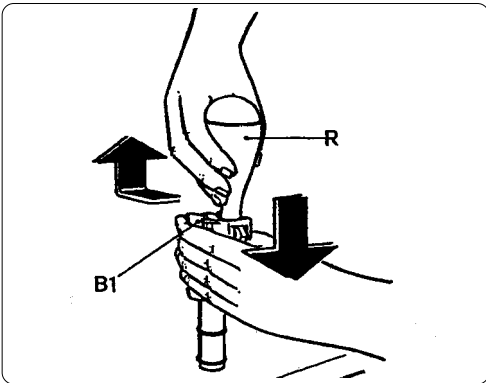

Fig. 32
g) Dismount the tap by pushing the body (B1) downwards, then slide the lever (R) out of its seating (fig. 32). Wash all the individual parts carefully with hot water and washing-up liquid, rinse it well and proceed with the re-assembly.